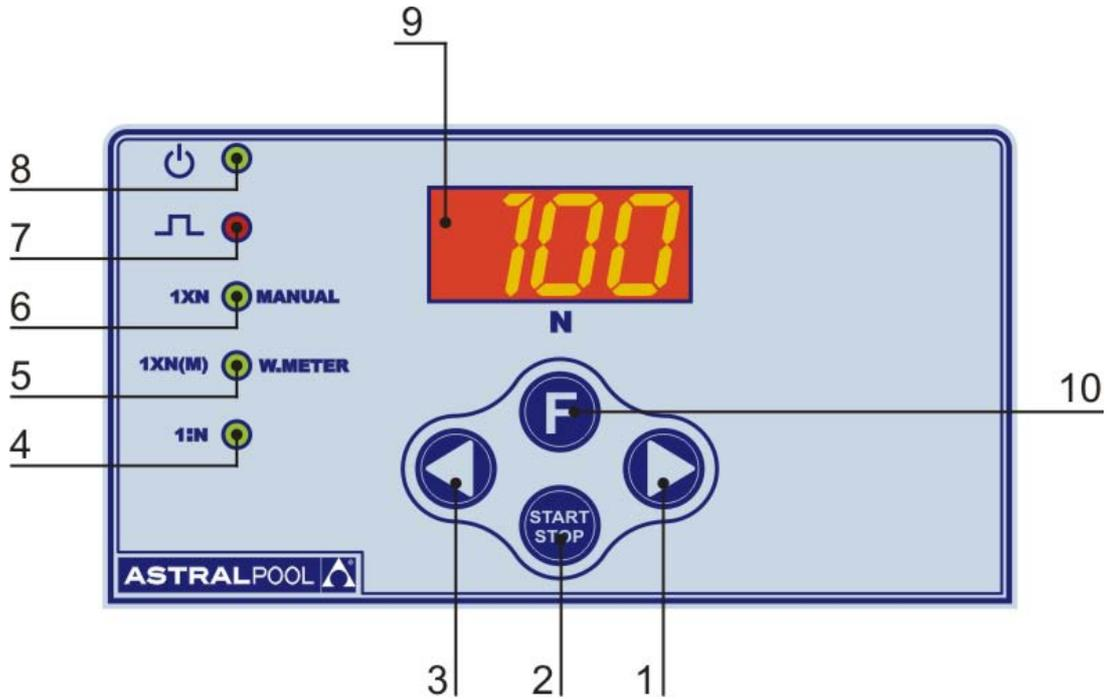

Fig. 22
9.1 - PUMP CONTROLS (Fig. 22)
- 5 - "green" LED 1XN (M) function/water meter